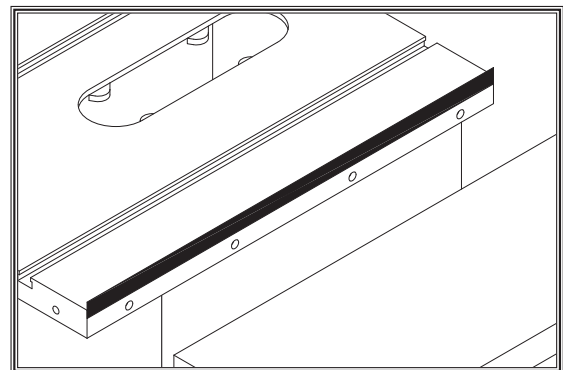

Figure 15. Masking tape location for adjusting the extension wing down.
- If the outside end of the extension wing tilts up, use a strip of masking tape along the top edge of the main table to shim the extension wing down (**Figure 15**).